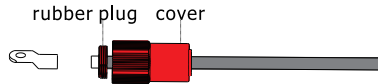

Figure 4.2-2
**Step1:** The wire passes through the rubber plug and outer cover, as shown in Figure 4.2-2.